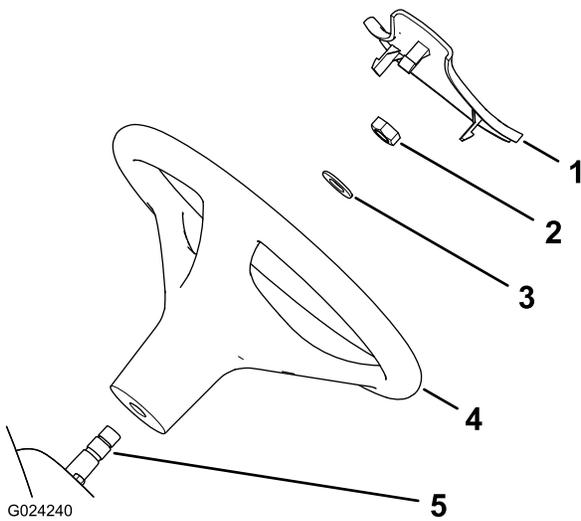

Figure 3
5. Install the cover on the steering wheel (Figure 3).
1. If the cover is installed, remove the it from the hub of the steering wheel (Figure 3).
2. Remove the nut from the steering shaft (Figure 3).
3. Slide the steering wheel and washer onto the steering shaft (Figure 3).